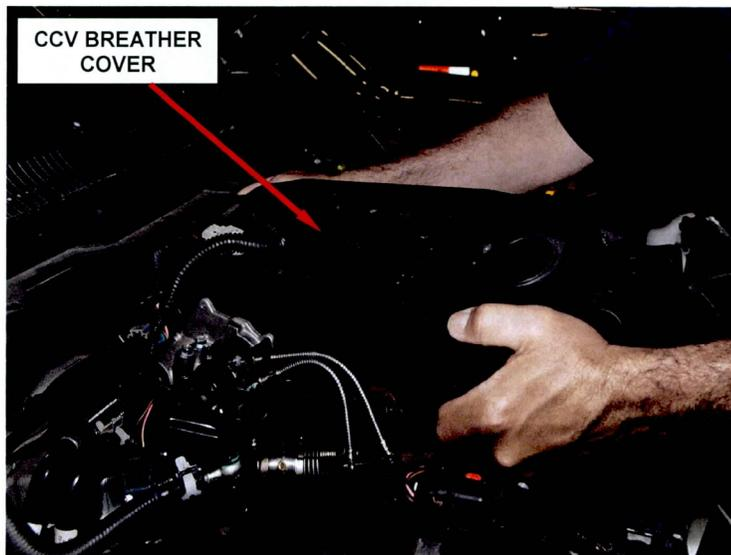

Figure 4 – CCV Breather Cover
10. Remove and save the CCV breather cover bolts and then remove the CCV breather cover (Figure 4).